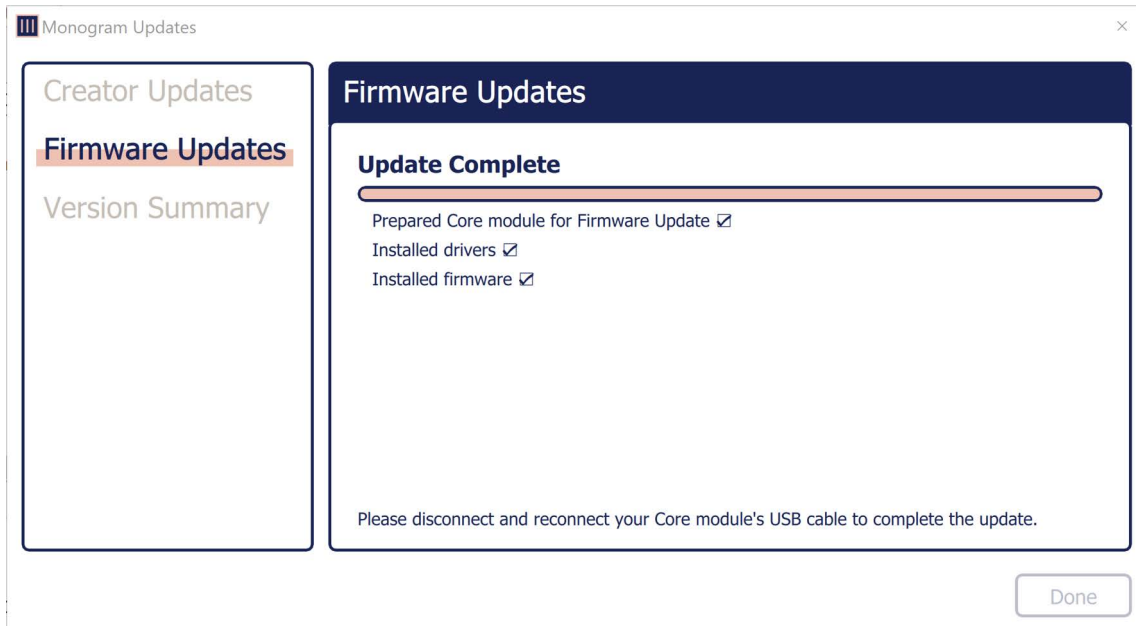

Figure 20 - Firmware Update Windows, showing the Firmware Update Process
3. Select **Update Firmware** if the installed version is different than the available version (Figure 20).